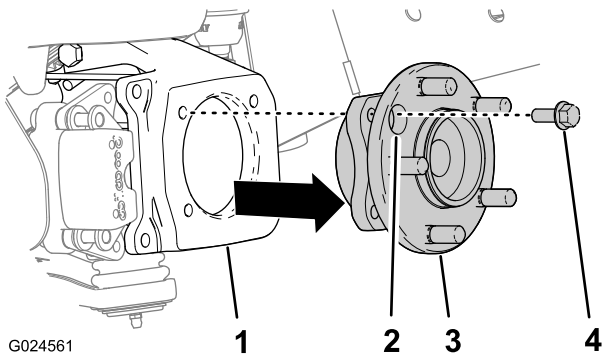

Figure 19
1. Remove the 4 hex-head bolts that secure the wheel hub and bearing assembly to the steering knuckle (Figure 19).
2. Remove the wheel hub from the steering knuckle (Figure 19).